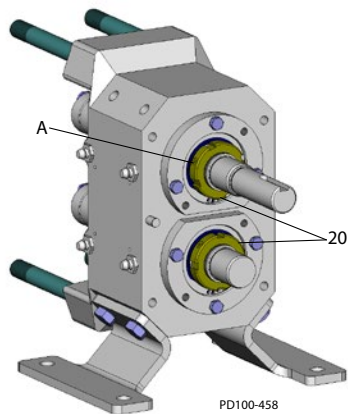

Figure 51 - Tighten Setscrews
- 4. Tighten or loosen the bearing lock nut (Figure 51, item 20) to achieve a torque value as shown in Table 6.
- 5. Tighten the locking setscrew(s) (Figure 51, item A) in the bearing lock nuts (item 20).